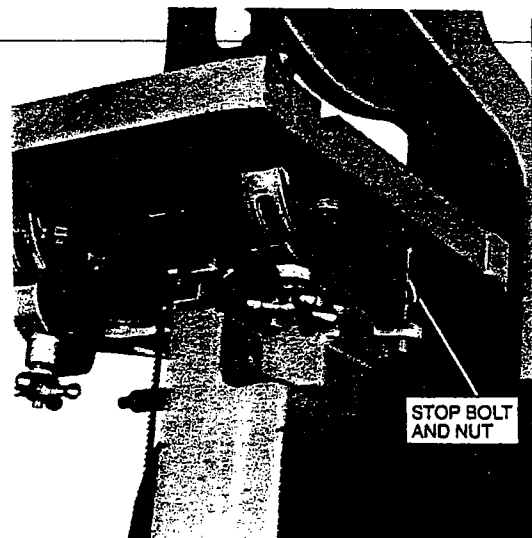

FIGURE 15
2. Screw in adjustable stop (bolt) and nut (Figure 15).